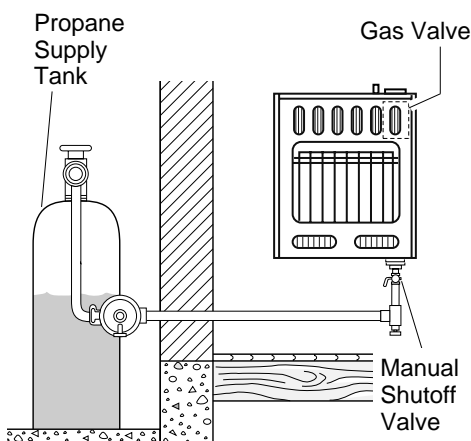

Figure 15 - Checking Gas Joints
3. Check all joints from propane supply tank to manual shutoff valve (see Figure 15, page 11). Apply mixture of liquid soap and water to gas joints. Bubbles forming show a leak.
4. Check all joints from manual shutoff valve to thermostat gas valve (see Figure 15). Apply mixture of liquid soap and water to gas joints. Bubbles forming show a leak.